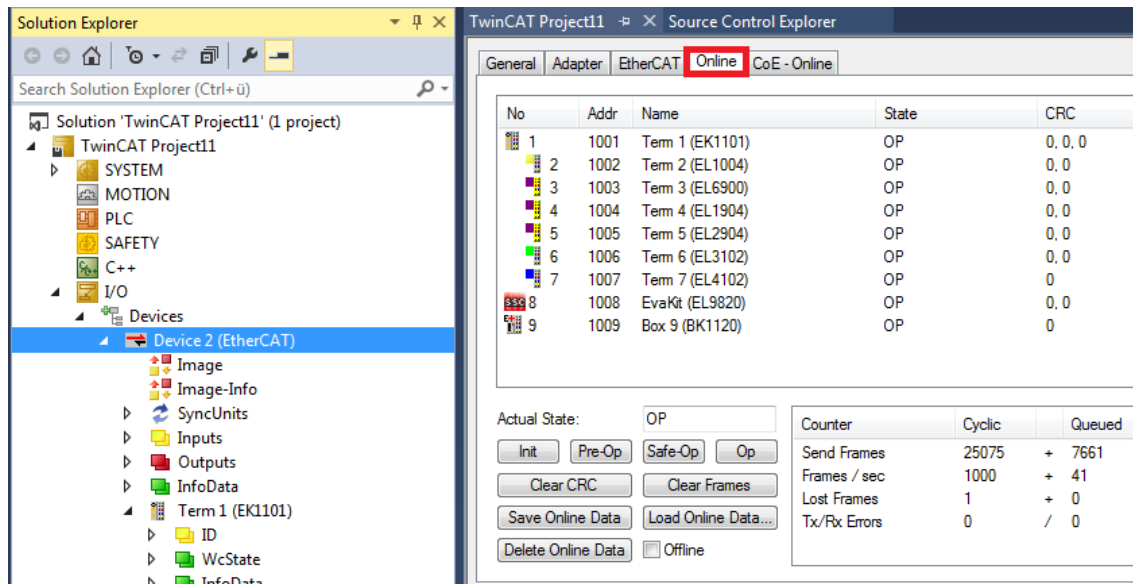

Figure 16: monitor online state of the EtherCAT network
- b. Once the communication has been started, the state of the network as well as of single slave devices can be monitored in the “Online” tab of the master device (Figure 16).